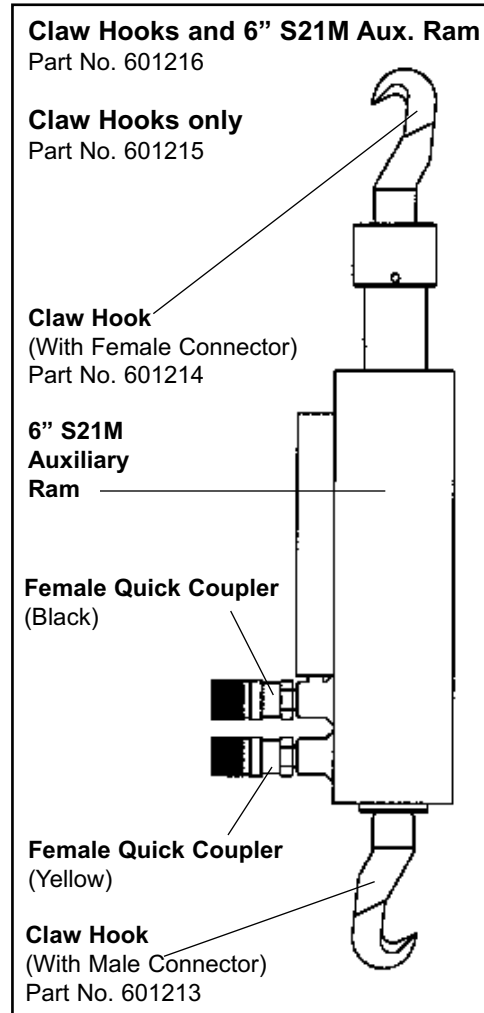

Figure 2
3. Thread claw hook - Part No. 601213 into bottom of ram. (See Figure 2.)
4. Thread claw hook - Part No. 601214 onto piston end of ram. (See Figure 2.)